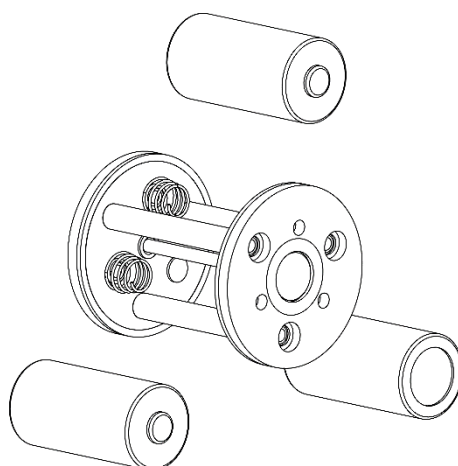

Figure 6. Inserting Batteries Into Batteries Cartridge
Unscrew the Battery Compartment Cover (4) that is holding the Batteries Cartridge. Pull Battery Cartridge (2) from the Battery Compartment Cover (4). Install three CR123 batteries (3) as shown on Figure 6 into the Battery Cartridge (2). Inspect the rubber O-ring of the Battery Compartment Cover (4) for damage. Replace if necessary. Slide Battery Cartridge (2) with installed batteries into the Battery Compartment Cover (4). Screw Battery Compartment Cover (4) with Battery Cartridge (2) holding batteries back into the Battery Compartment (1).